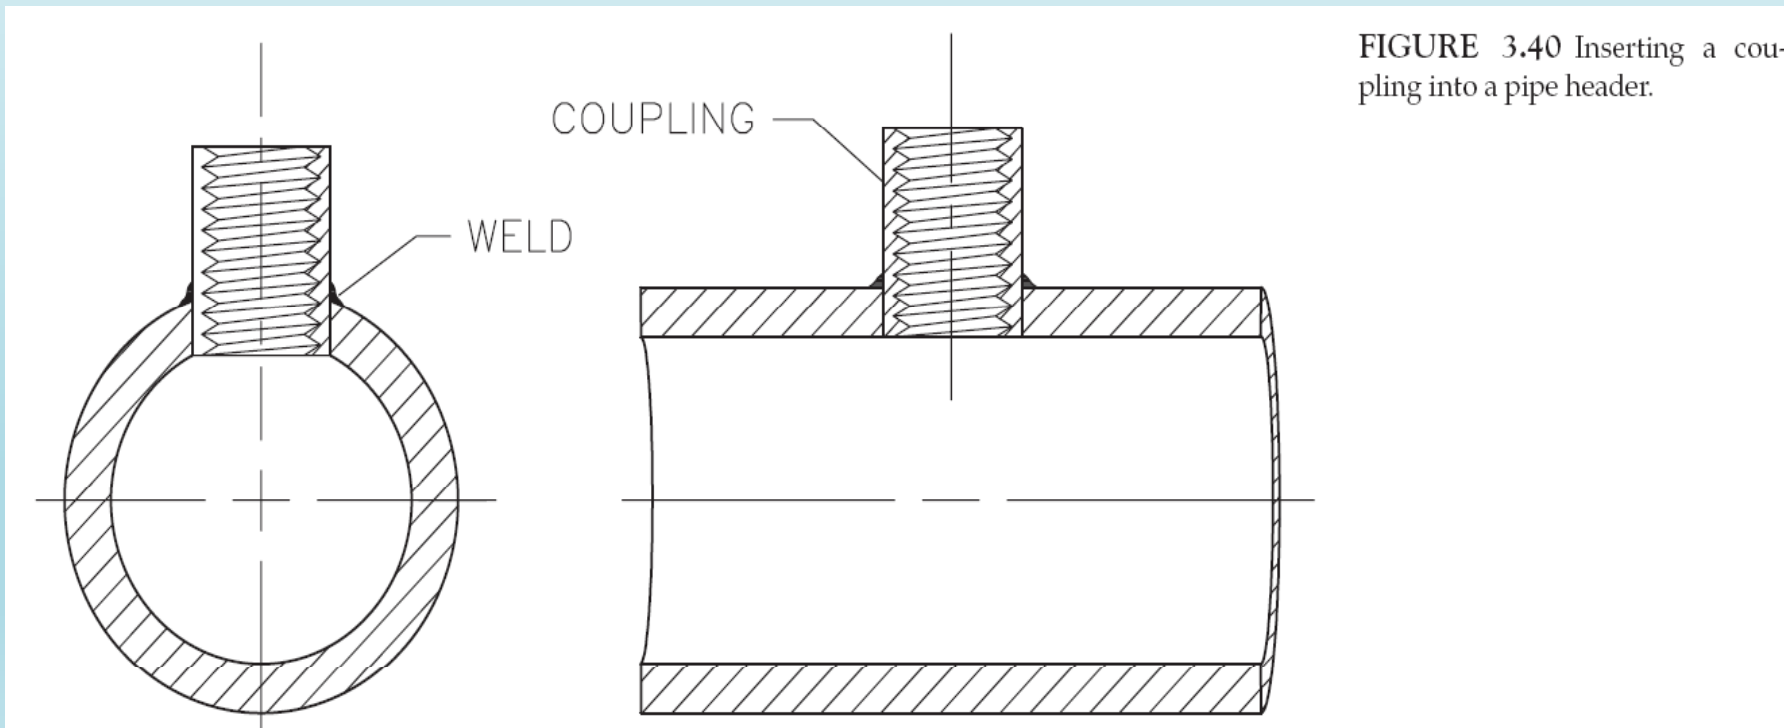

FIGURE 3.40 Inserting a coupling into a pipe header.
2. A hole is bored into the pipe header large enough to accept the OD of the coupling. The coupling is inserted into the hole and is then welded (see Figure 3.40).